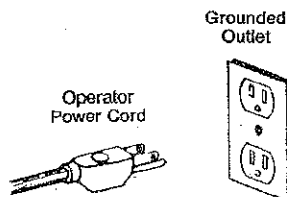

Fig. 24
1. Plug operator power cord into grounded outlet (Fig. 24).